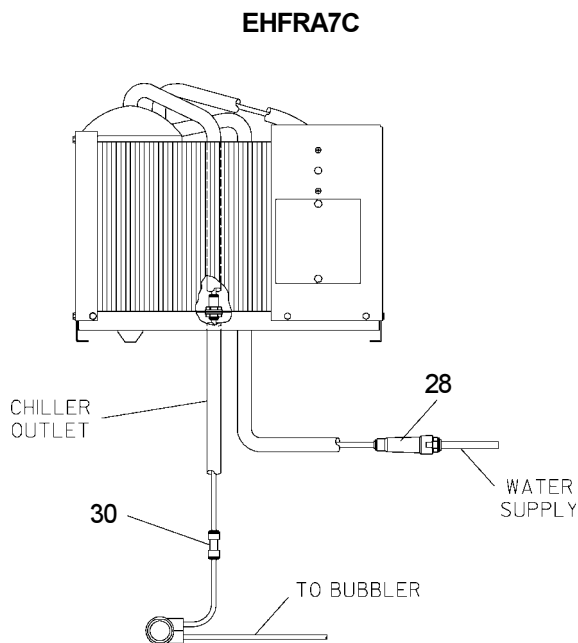

FIG. 2
5. **Connect** water outlet tube on refrigeration package to water in tube on regulator holder (Item 19) with tubing and fitting provided. (See Fig. 2)